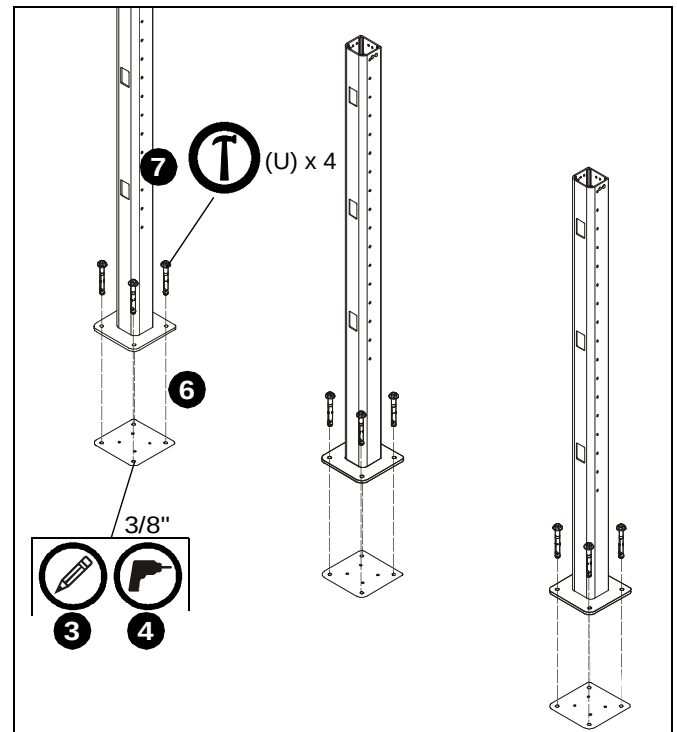
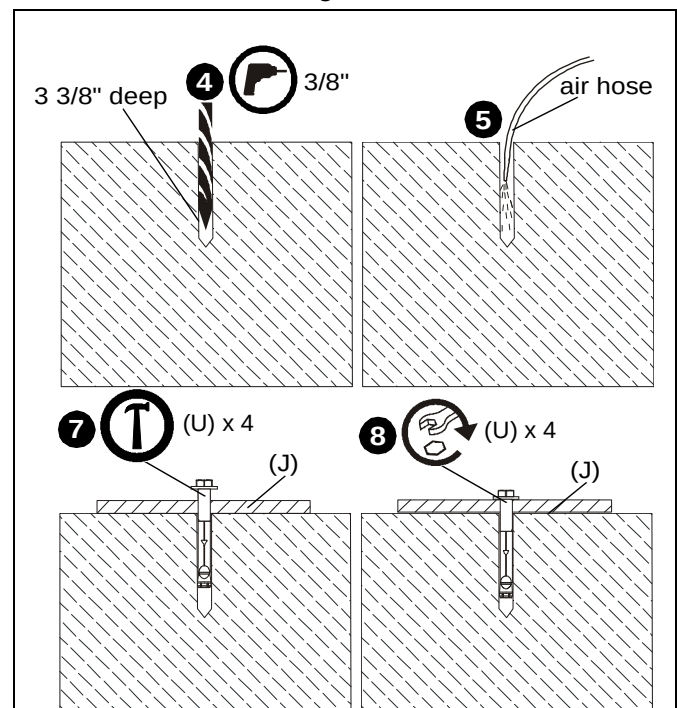

Figure 2
Figure 3
3. Using template found at end of this instruction manual (Figure 20), mark four holes at outside hole locations for each column. (See Figure 2) and (See Figure 21)
4. Using a 3/8" drill bit, drill a hole 3 3/8" in depth at each marked location. (See Figure 2) and (See Figure 3)
5. Blow each hole clean of any concrete debris with a large air hose or compressed air in a can. (See Figure 3)
6. Place each bolt down plate (J) on top of drilled holes making sure holes on plate are aligned with drilled holes. (See Figure 3)
7. Use a hammer to drive anchors (U) through plate holes into the drilled holes until the bolt head is firmly seated against the plate. (See Figure 2) and (See Figure 3)
8. Tighten each anchor by turning the head three to four turns past finger tight. (See Figure 3)